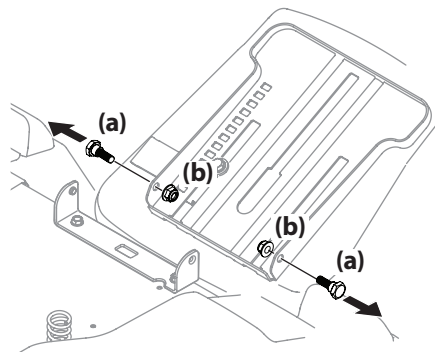

Figure 2-9
- Remove the two shoulder screws (a) and flange lock nuts (b) in the seat pan as shown in Figure 2-9.